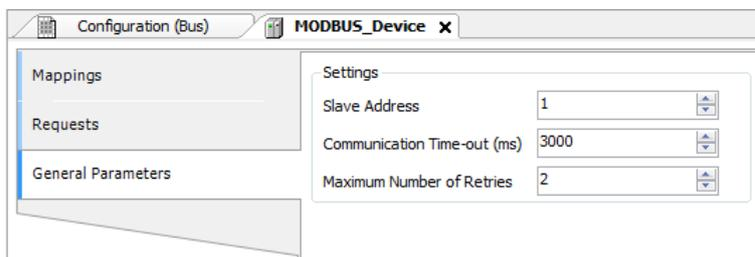

Figure 71: Device General Parameters Settings
- Add and configure devices via the General Parameters tab, defining the slave address, communication time-out and number of communication retries as can be seen in Figure 71.